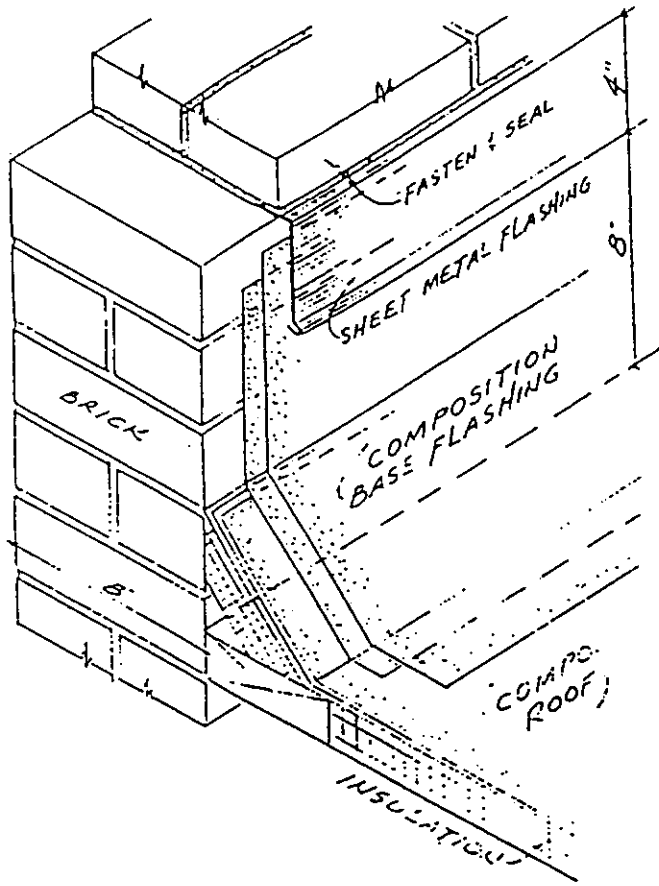

FIGURE 2\*
- B) "BASE FLASHING" IS A CONTINUATION OF THE MEMBRANE UP A SHORT DISTANCE ON A WALL, CHIMNEY, PARAPET OR CURB. SINCE ROOFING FELT WILL CRACK IF BENT AT 90 DEGREES, A 45 DEGREE BEVEL STRIP (CALLED A "CANT STRIP") IS USED WHERE ROOF SURFACES ABUT A VERTICAL WALL. THIS CANT STRIP REDUCES THE ANGLE, AND ALLOWS THE MEMBRANE TO TURN ON UP THE WALL. GRAVEL IS ONLY USED OVER THE HORIZONTAL MEMBRANE, SO A SPECIAL PROTECTIVE TYPE FELT IS USED AS A TOP LAYER OVER THE BASE FLASHING. (SEE FIGURE 2).